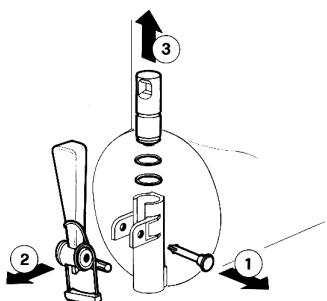

figure 11
- 6 Dismantle the faucet assembly (see figure 11).
- 3 Assemble the faucet by reversing the disassembly steps (see figure 11)